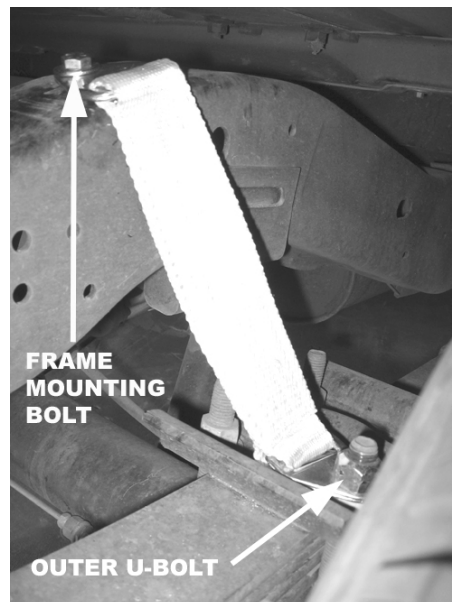

FIGURE 28: TYPICAL LOCATION OF OVER-TRAVEL STRAP
5. Refer to **Figure 28**. Install straps at the outer ends of the axle. Connect each strap between one of the nuts on the axle U-bolts and the frame channel above. Locate the upper end of the strap on the side or top of channel to maintain the 3/8" clearance between the enclosure and driveshaft. Remove floor jack and verify clearance has not changed.